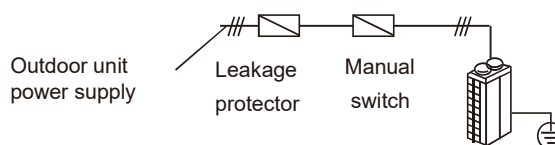

Fig. 6-1
- All the indoor units in a system (i.e. all the indoor units connected to the same set of outdoor units) should be tied into the same power circuit with the same power supply, overcurrent and residual current protection (leakage protection) and manual switch, as shown in Figure 6-1. Do not install separate protectors or manual switches for each indoor unit. Powering on and shutting down all indoor units in a system should be done simultaneously. The reason for this is that if an indoor unit that is running were to suddenly power off whilst the other indoor units continued running, the evaporator of the powered-off unit would freeze since refrigerant would continue flowing to that unit (its expansion valve would still be open) but its fan would have stopped. The indoor units that remain running would not get sufficient refrigerant so their performance would suffer. Additionally, liquid refrigerant returning directly to the compressor from the powered-off unit would cause liquid hammering, potentially damaging the compressor.